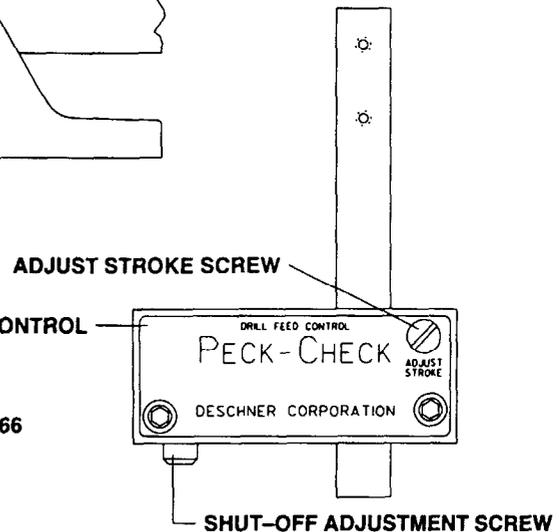

FIGURE 4
4. Turn the hydraulic check adjustment to the zero setting. Loosen the "adjust stroke" screw on the peck check control (figure 4) and tighten "shut-off adjustment screw" (figure 4).